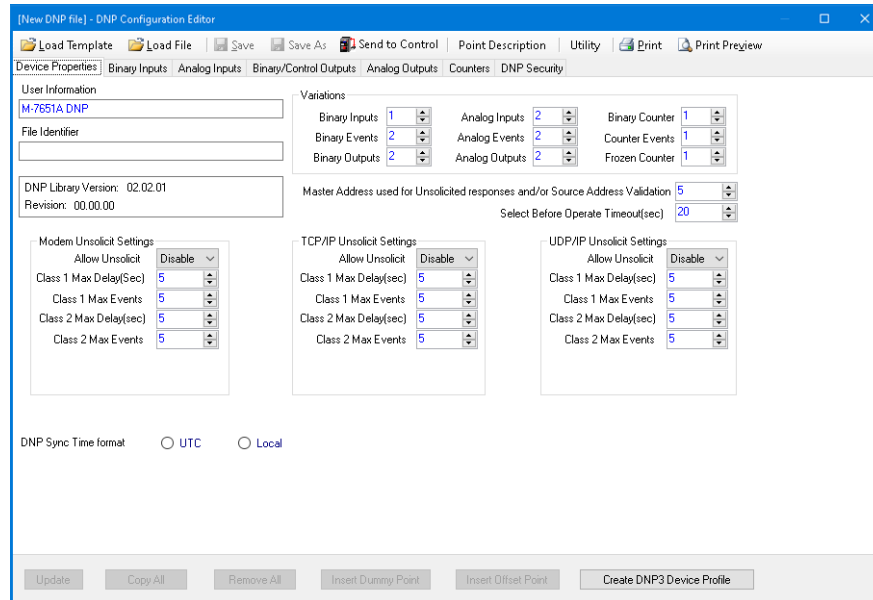

Figure 1-1 DNP Configuration Editor Screen
1. From the IPScorn S-7600 Communications Software Main Screen select **Communication/Protocol/DNP/DNP Configuration Editor**. IPScorn will display the DNP Configuration Editor screen (Figure 1-1).